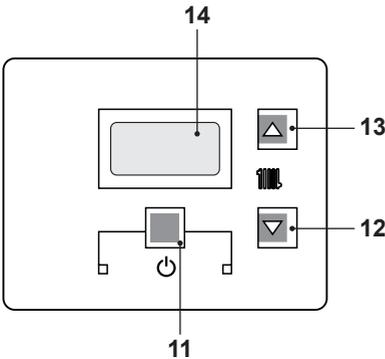
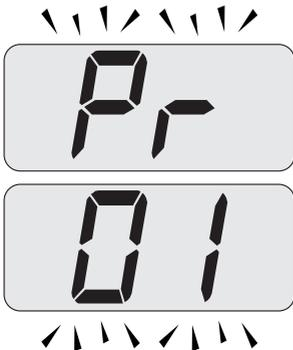
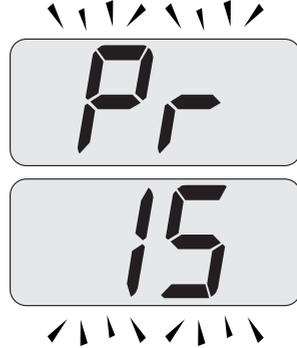

Fig. 7.17
Fig. 7.18
Fig. 7.19
- Enter in "programming mode" by pressing keys 11 - 12 - 13 (Fig. 7.17) for 10 seconds at the same time until the letters **Pr** that alternate with code 01 are displayed on the LCD display, indicating that "parameter 01, has been activated (Fig. 7.18).
with code **15** are displayed on the LCD display, indicating that "parameter 15" (Fig. 7.19) has been activated.
- Press keys 11 and 13 (Fig. 7.17) at the same time until the value of parameter 15 (Fig. 7.20) is displayed on the LCD display.
- By pressing key 11 (Fig. 7.17) confirmation of the inserted value is obtained.
- Press keys 11 and 12 (Fig. 7.17) at the same time to exit without changing the value (return to the parameters list Fig. 7.19).
- Press keys 11 - 12 - 13 (Fig. 7.17) at the same time for 10 seconds to exit the "programming mode".
However, if the ambient temperature is not comfortable, the flow temperature of the heating plant can be increased or reduced by  $\pm 15^\circ\text{C}$  by acting on keys 12 (reduce) and 13 (increase) (Fig. 7.17).